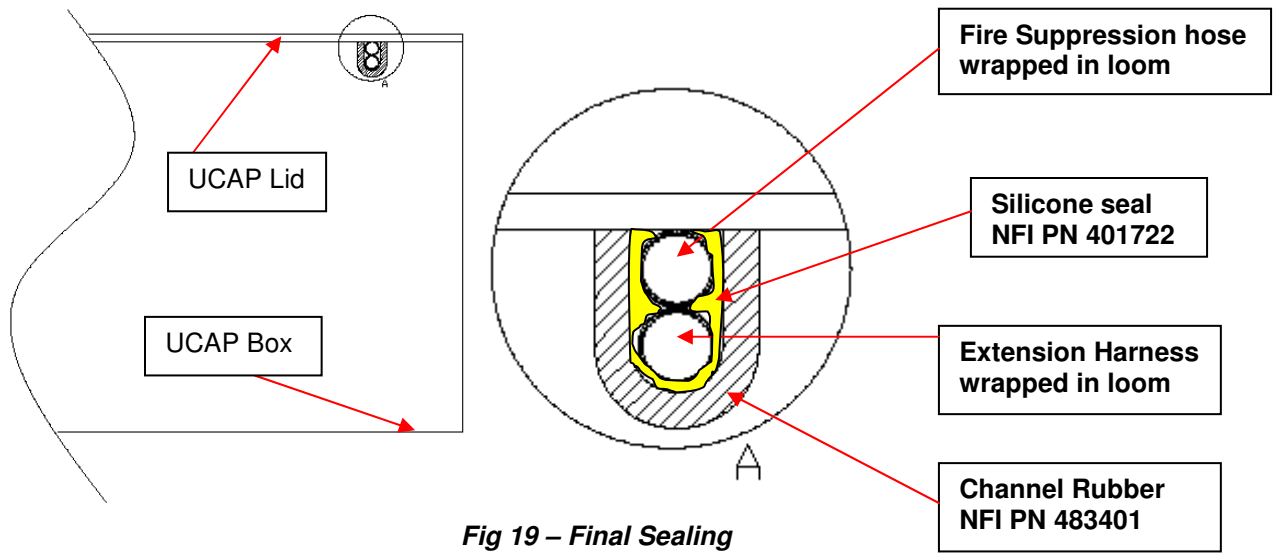

Fig 20 – Street Side and Curbside Complete
- w. Seal around harness opening to prevent water intrusion. Fig 19 and Fig 20